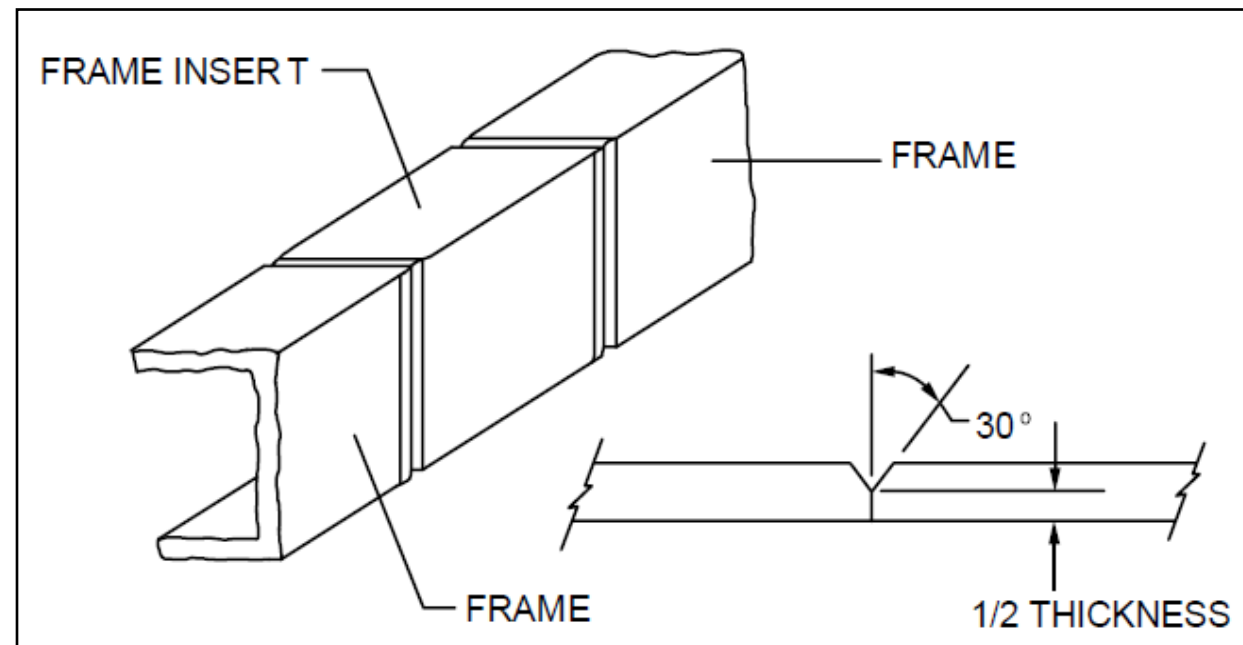

Figure 29 – Chamfered Frame Rails Prior to Welding
- Chamfer the outside edges of both the frame cut and the insert ends at a 30° angle, leaving half of the thickness. (See Figure 29)